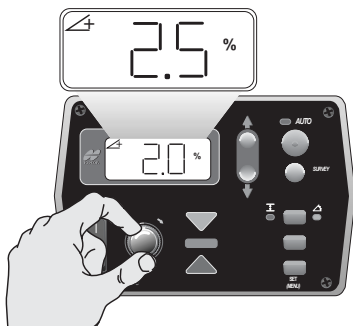

Figure 5. Adjusting Cross Slope Control
- Knob adjusts the percentage of slope while in cross slope control (Figure 5).